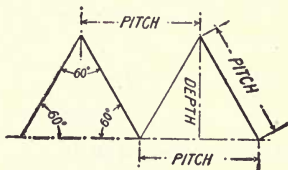

FIG. 117.—Measurement of Pitch of Screw.
**298. Depth of Thread.**—It is important to be able to find the depth of a thread, for upon this depends the cutting of all threads and the size of all tap drills. By referring to Fig. 117, we see that the depth of the thread is the altitude of a right-angle triangle, since the angles are all  $60^\circ$  and the sides of the V or groove are equal to the pitch. Knowing two sides of a right-angle triangle we can easily find the other, since we know that the square of the altitude of any right-angle triangle is equal to the square of the hypotenuse minus the square of the third side. A simple problem in square root will give the correct figure for the altitude of depth.